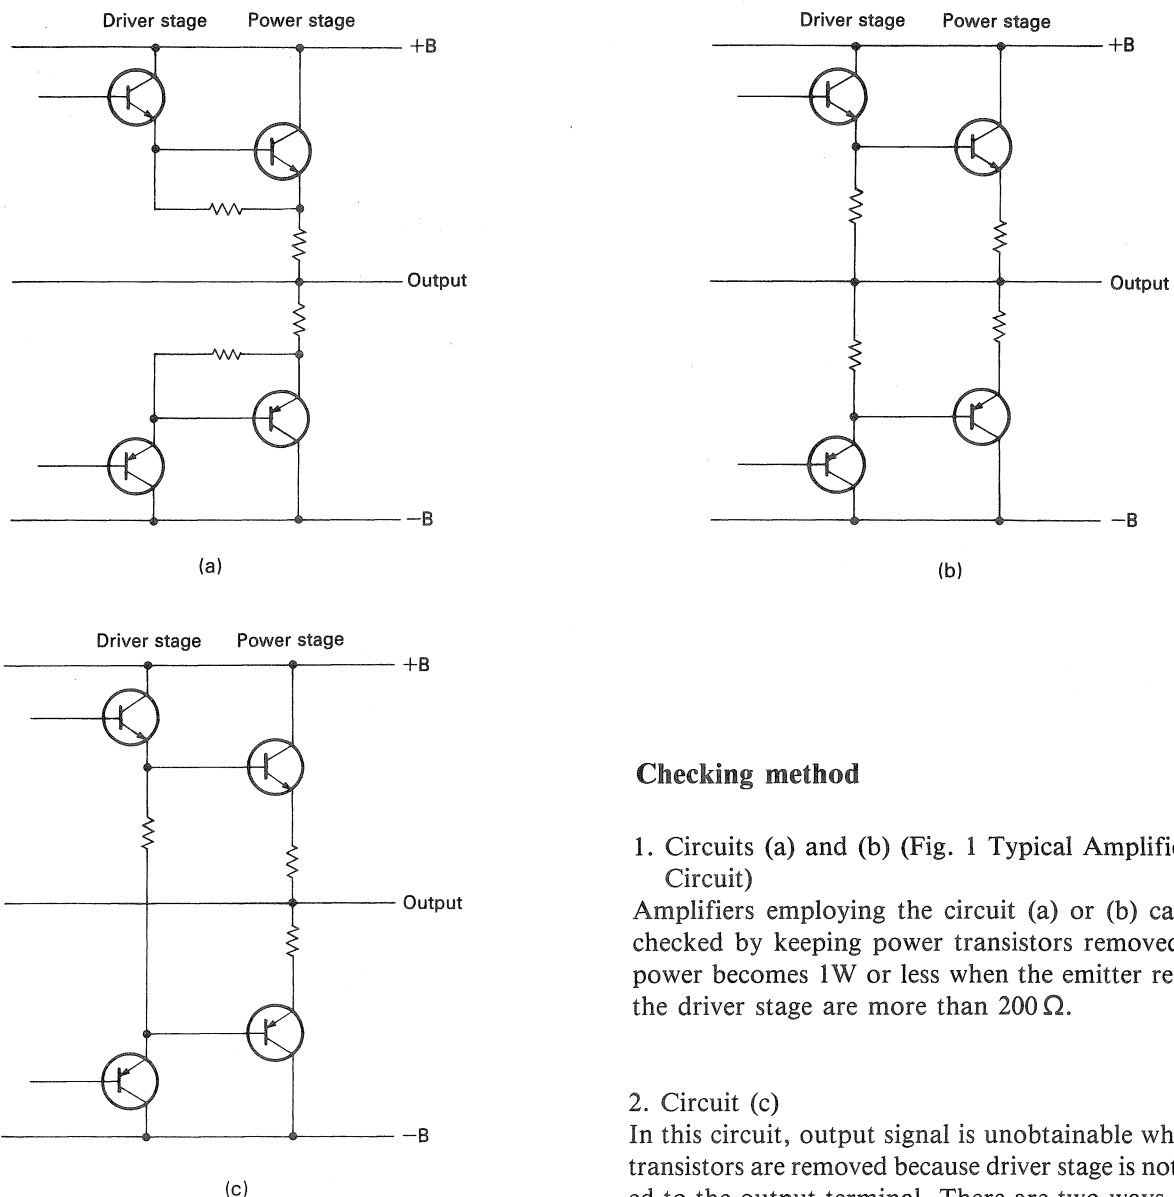

Fig. 1 Typical Amplifier Circuits
amplifiers by removing power transistors and heat sinks which occupy large space. The method varies with the type of circuit. Fig. 1 shows three typical circuits of power amplifiers.
1. Circuits (a) and (b) (Fig. 1 Typical Amplifier Circuit)